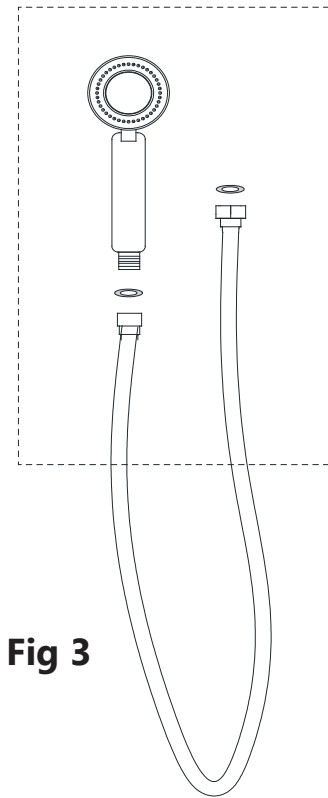

Fig 3
3. Assemble the **Handshower (#05)** and the **Shower Supply Hose (#07)** according to the diagrams in **Fig 3**.